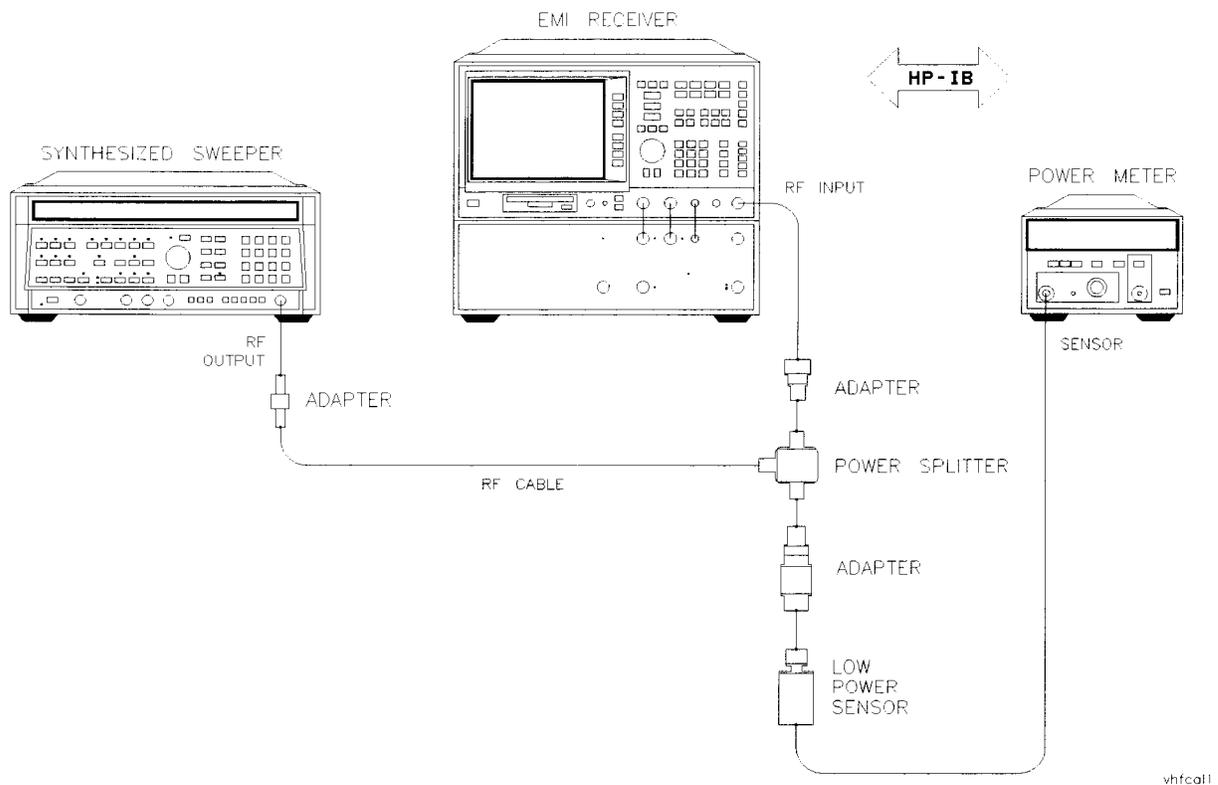

Figure 2-13 Very High Frequency Calibration, Input 2 Setup
- The test equipment must be connected as shown in Figure 2-13 on page 2-45.
- When the program has completed the REF measurements, connect the equipment as shown in Figure 2-13. The following is displayed on the controller.